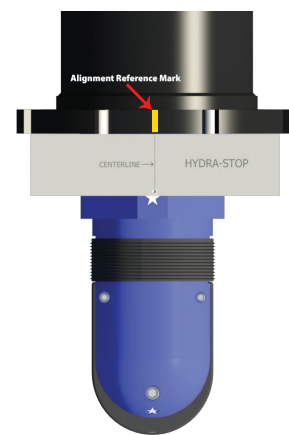

FIGURE 53
3.0.14) Ensure the flat of the alignment gauge arm remains aligned with the truncated side of the valve cartridge (see Figure 53).